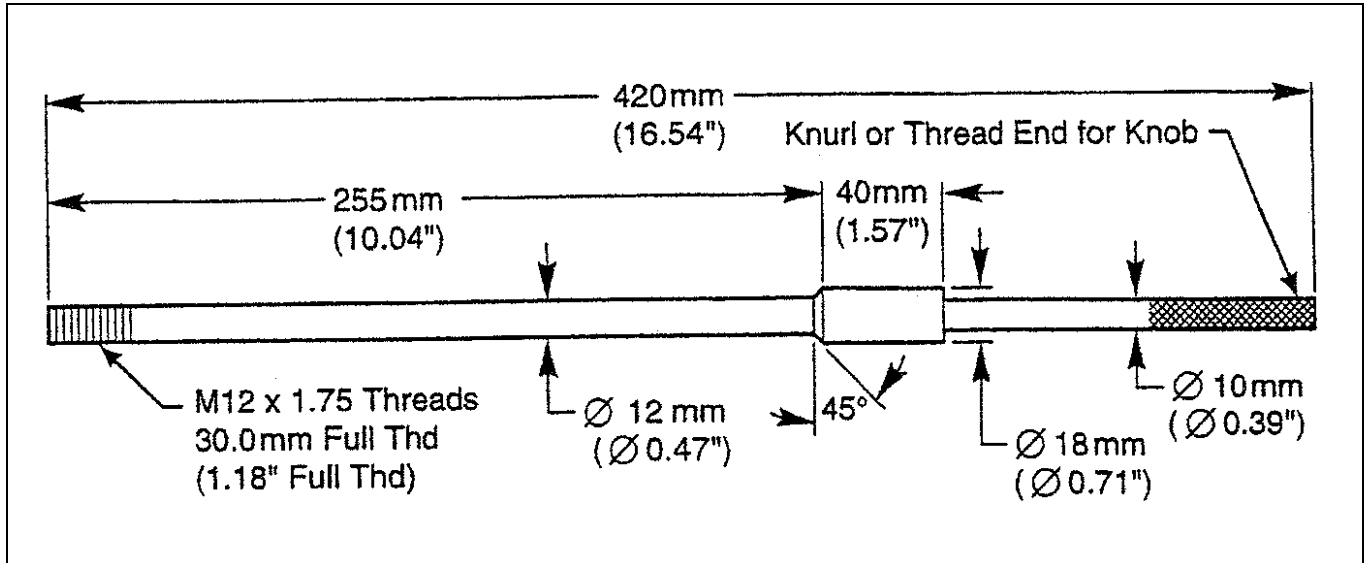

Figure 6-1. Endplay Tool
- b. Countershaft End Play Measuring Tool (Fig. 6-1)